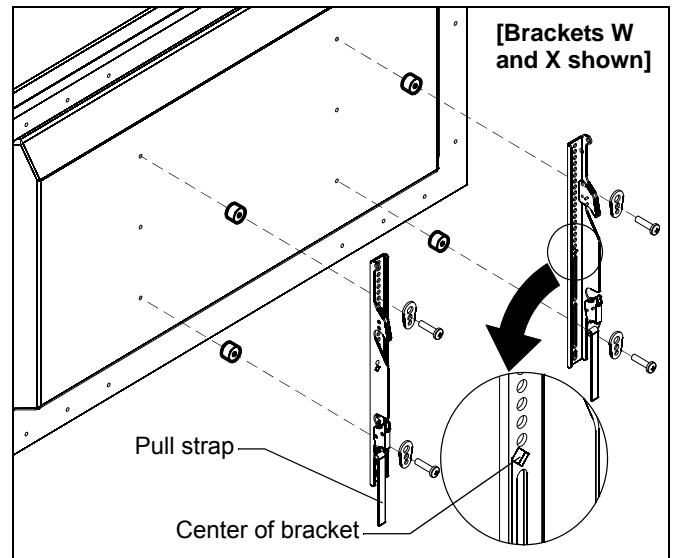

Figure 4
1. Align the center of the bracket (W and X or Y and Z) with center of screen. (See Figure 4)
2. Select correct screws, spacers (if necessary) and universal washers from the hardware bag (A-N) for LSMU/LTMU models; and from the hardware bag included for LSM5XXX/LTM5XXX models, and attach brackets to back of screen. (See Figure 4)